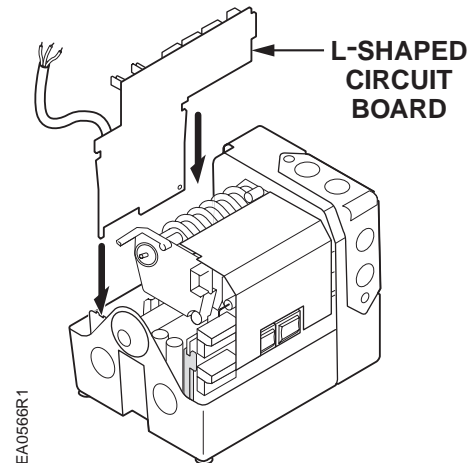

Figure 27.
8. Gently guide the L-shaped circuit board containing the three blue trim potentiometers into the vertical support slots located on the cam drum side of the actuator. See Figure 27.